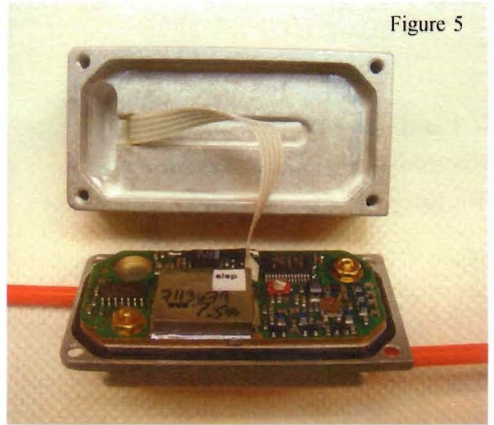

Figure 5
7. Place cover onto the transmitter body. Be careful on how the ribbon cable is folded--just an easy "S" bend (Figure 5).